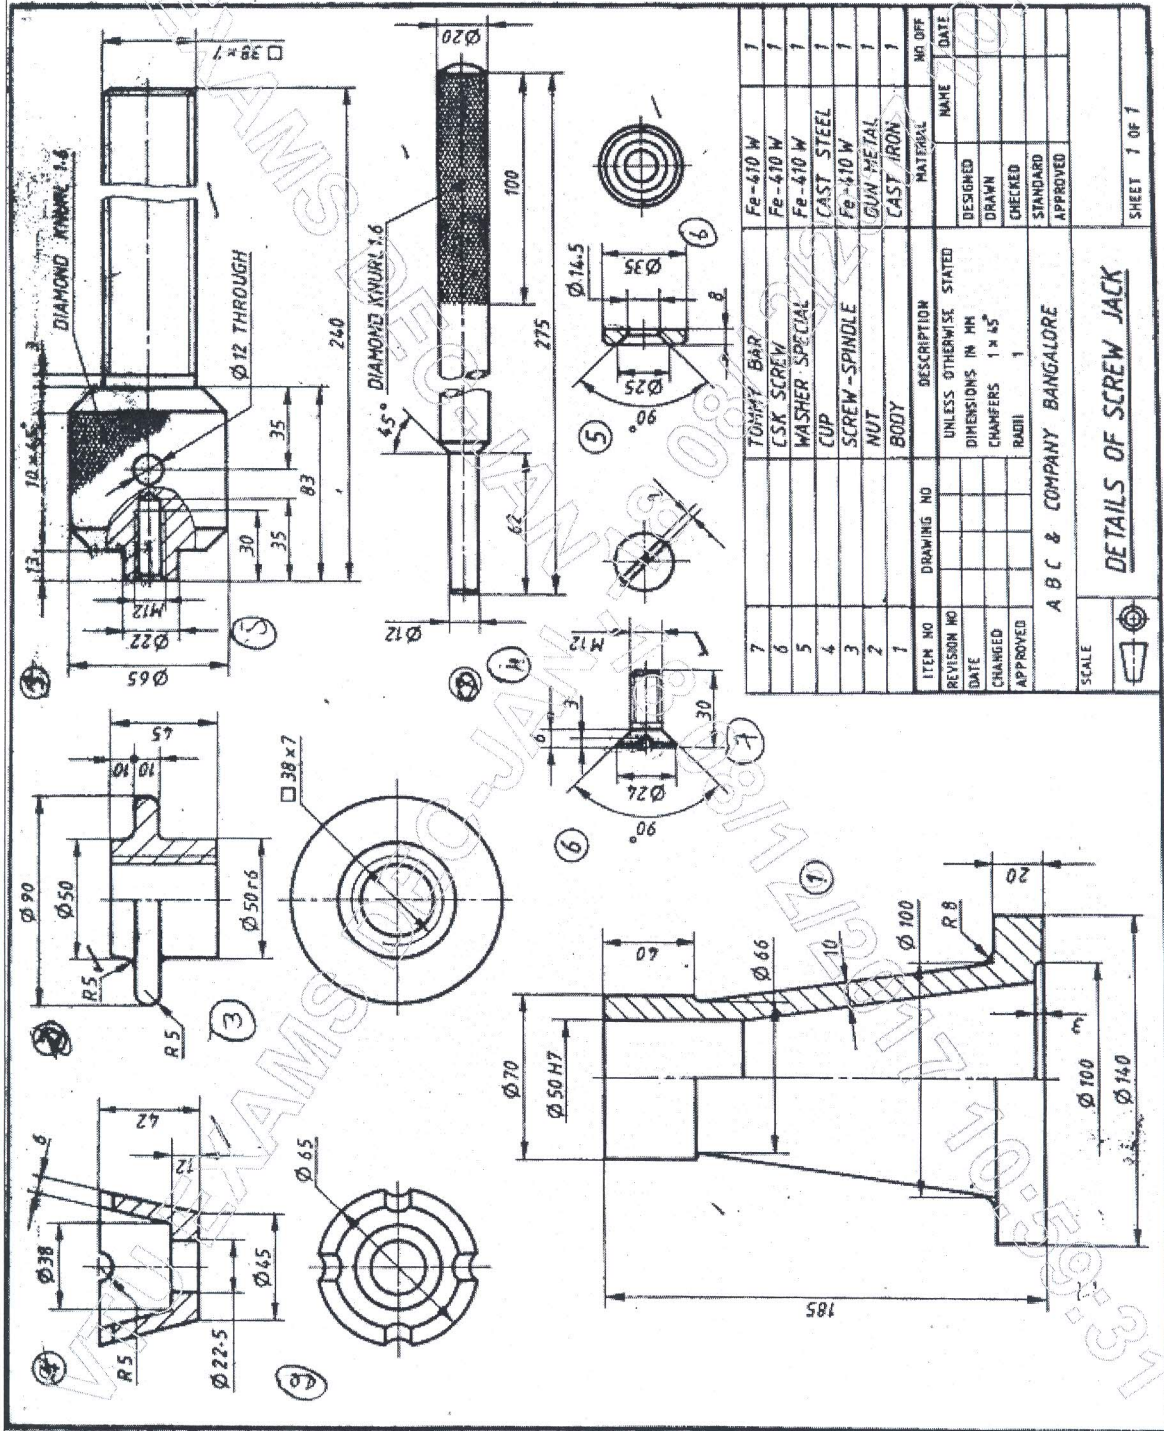

Figure 2. SCREW JACK
- Q.No.5** Details of SCREW JACK is shown in following Figure 2. Assemble the parts and draw the following views. (a) Sectional Front View (b) Top View. **(50 Marks)**